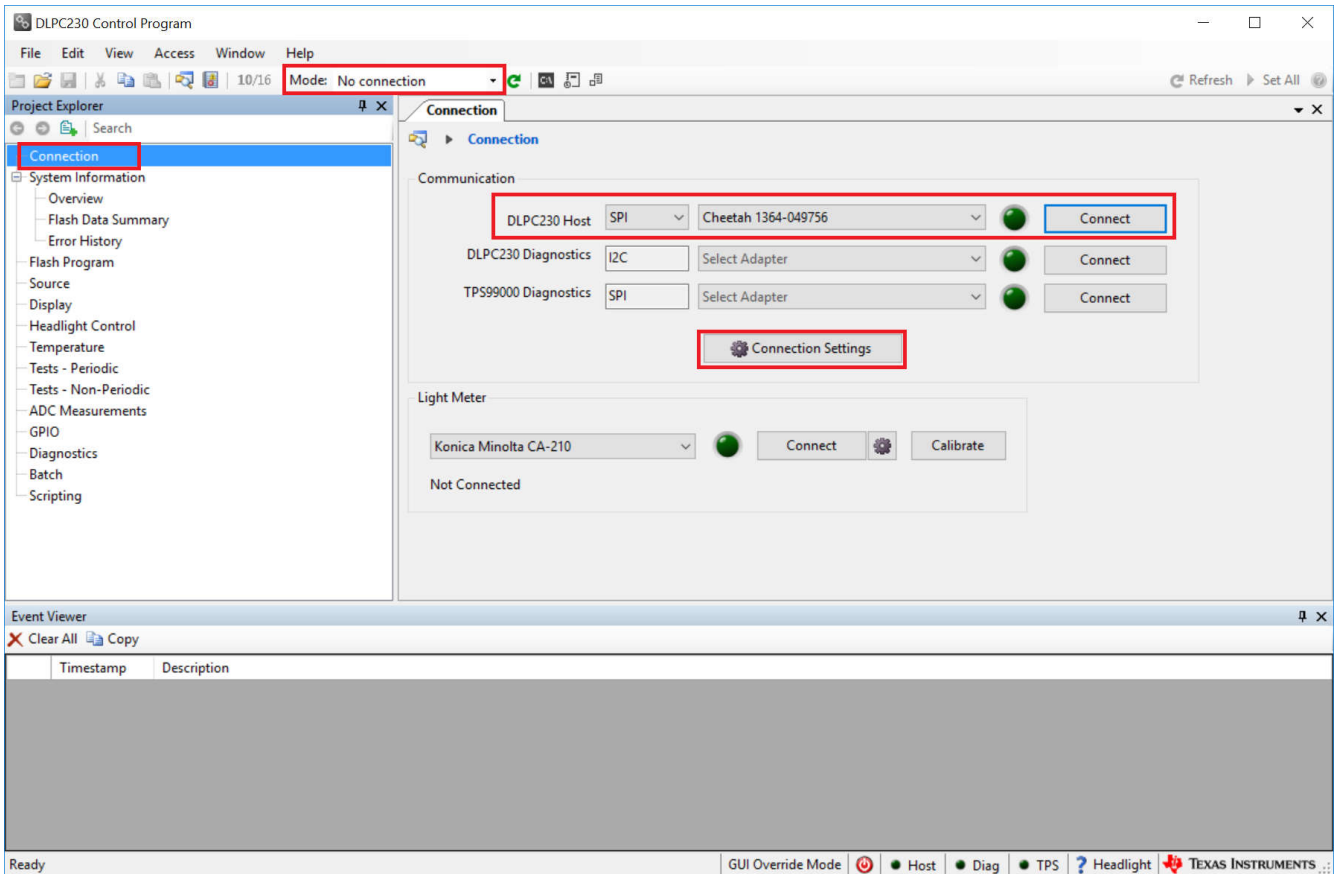

Figure 2-6. Connecting to the DLPC230-Q1 Using the DLPC230-Q1 Automotive Control Program
2. On the connection page, set the DLPC230-Q1 Host to SPI and select the Cheetah from the drop-down menu (see Figure 2-6). Note, the Cheetah must be connected to a computer with USB cable for it to show up in the drop-down menu.